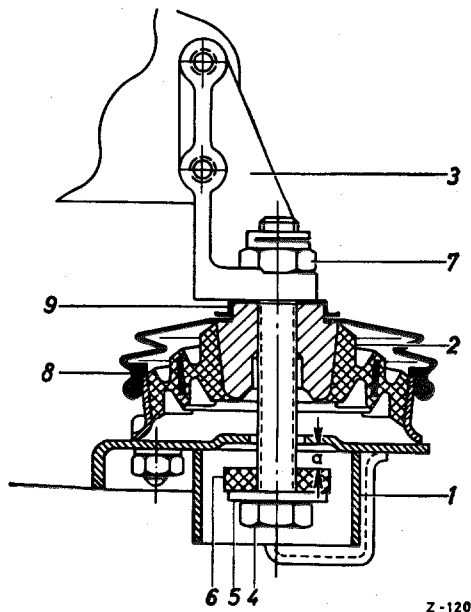

Fig. 24 — 1/1
1. Screw the self-locking nut (7) off the hexagon bolt (4) (see Fig. 24 — 1/1).